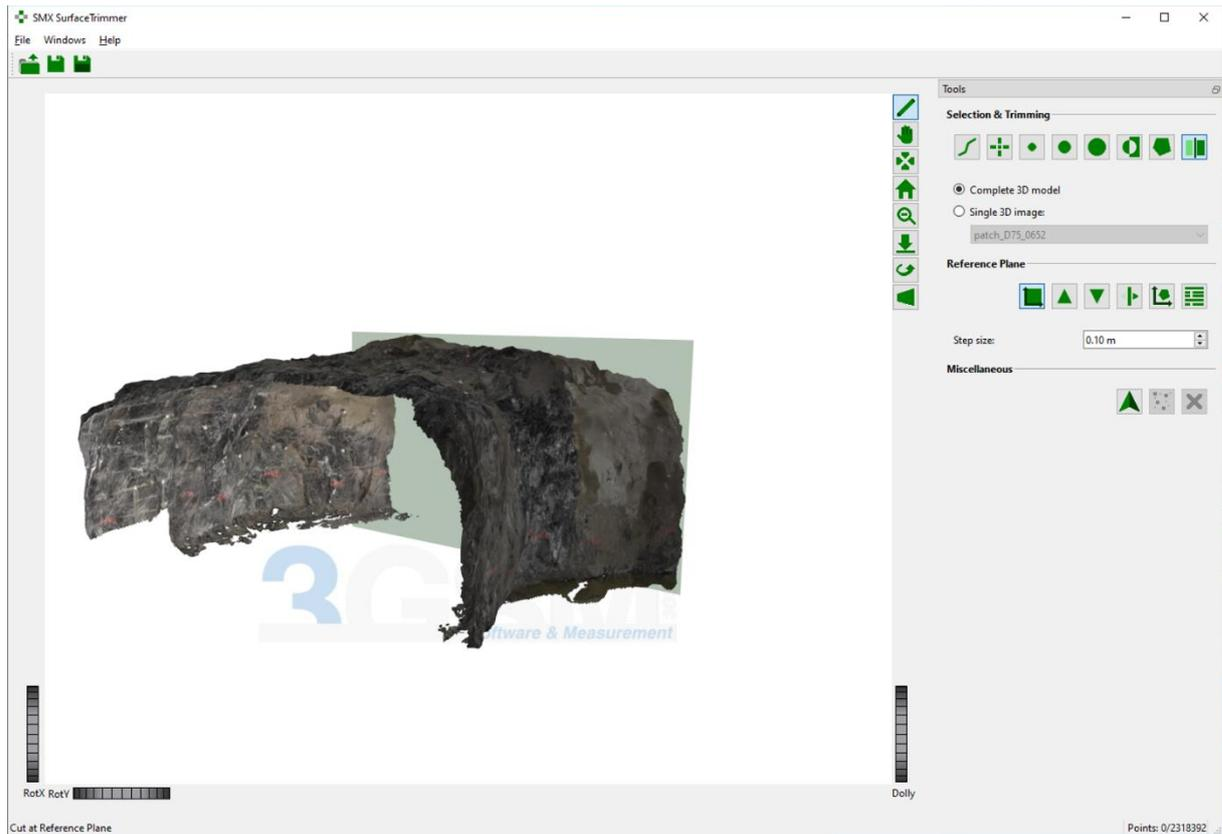

Figure 21: 3D model after trimming at the Reference Plane
5. Delete the desired region by pressing the “Delete” key or middle mouse button (Figure 21)